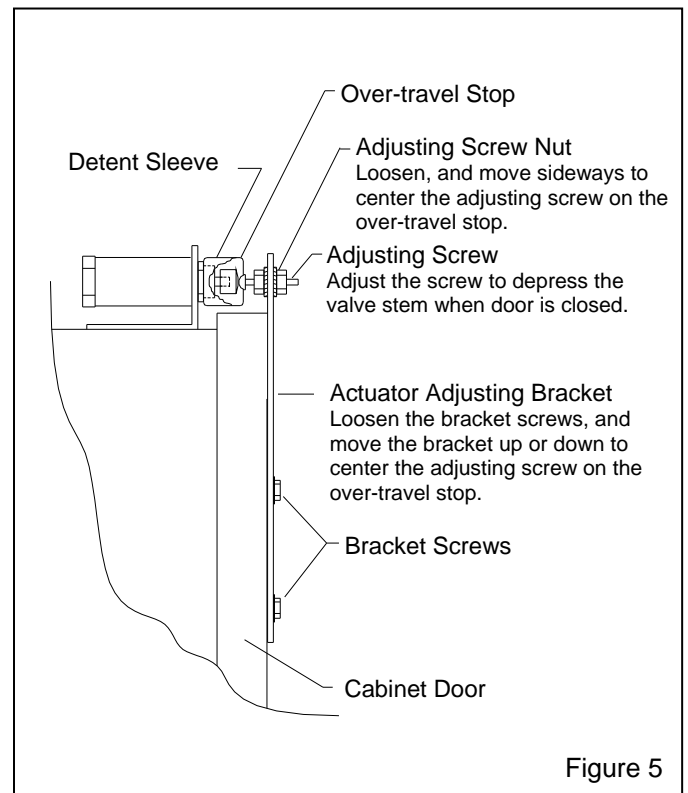

Figure 5
**4.6 Door Interlocks, Figure 5**